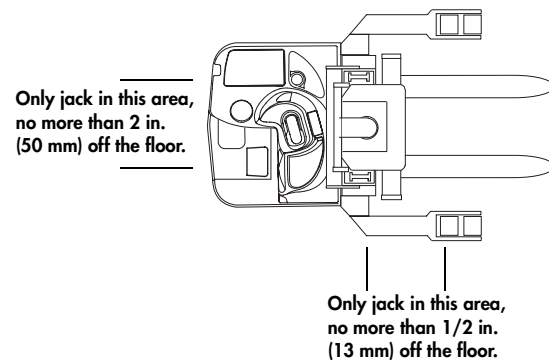

Figure 2-3: Correct Jacking Locations
6. Place the jack under the designated jacking points. See Figure 2-3.
1. Place the jack in the designated jacking position. See Figure 2-3.